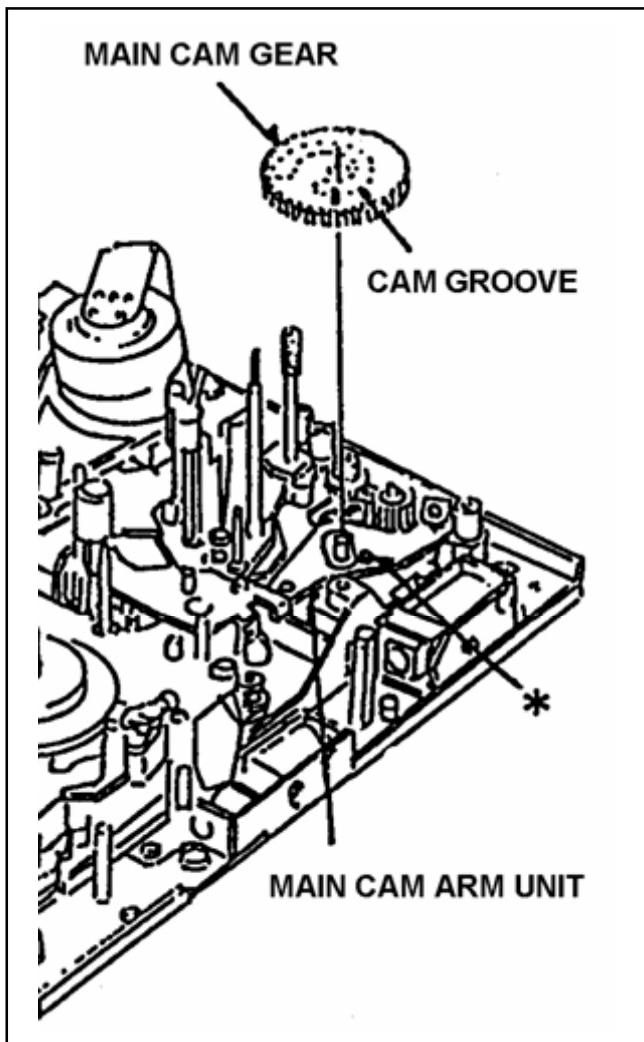

Figure 5-15-1
1. Remove the Pinch Solenoid Unit and Loading Motor Unit. (Refer to item 5-10 and 5-13.)
2. Remove the Main Cam Gear as shown in Figure 5-15-1.
1. Install the Main Cam Gear, then the pin of Main Cam Arm Unit (\*) should match with the groove position of Main Cam Gear as shown in Figure 5-15-1.
3. After installation, perform the Pinch Solenoid Position Adjustment. (Refer to item 5-11)